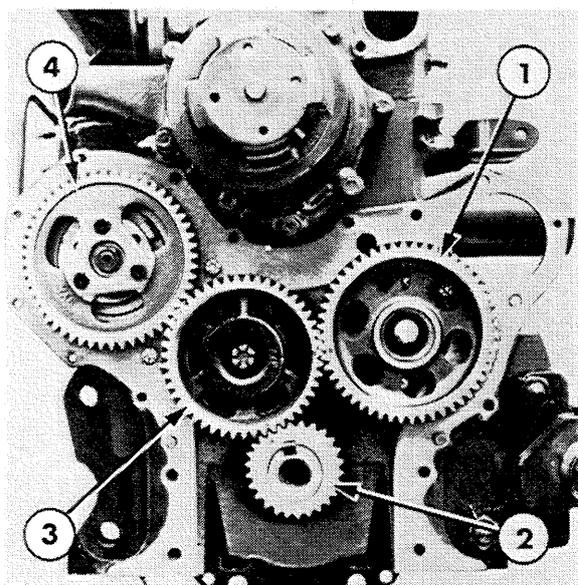
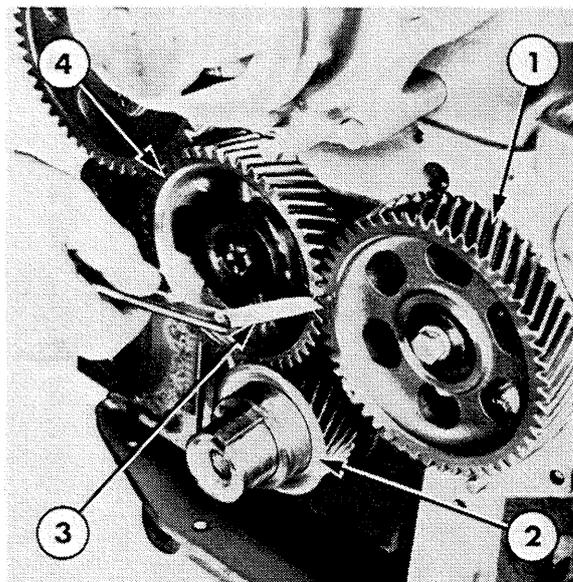

Figure 20
Figure 21
6. Before removing the timing gears, Figure 20, use a dial indicator or feeler gauges, to measure the backlash between each set of mating gears, Figure 21. Rotate the gears and check the backlash at four equidistant points on the gears. Renew the gears if the backlash exceeds the specified limits, see "Specifications" — Chapter 4.